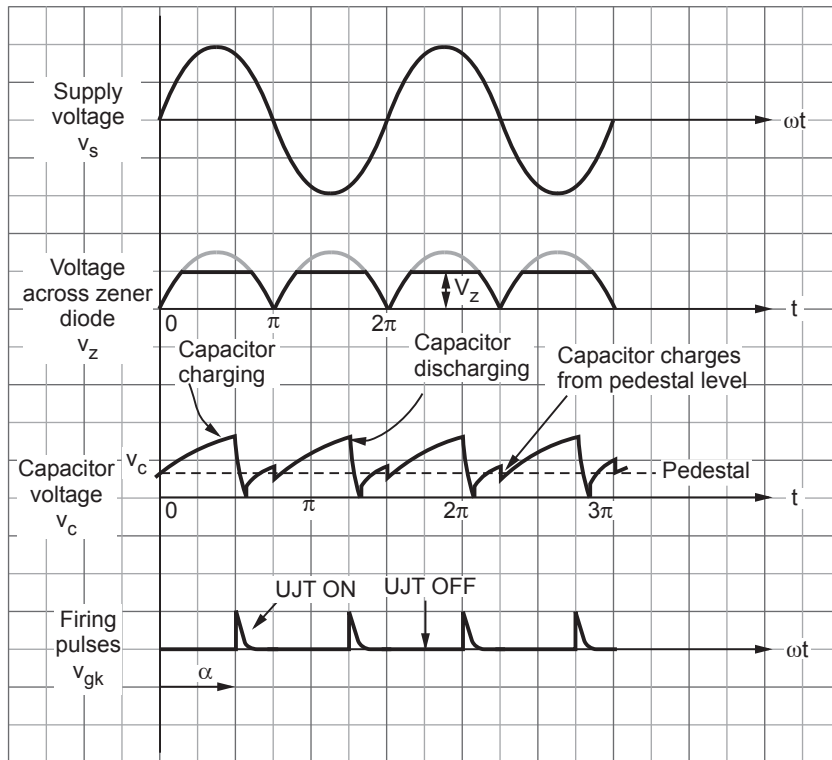
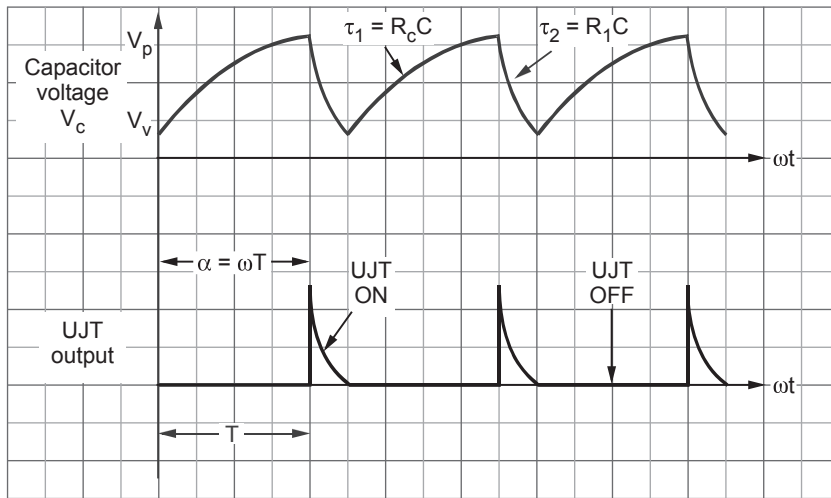

Fig. 1.10.10 Waveforms of UJT triggering circuit
Fig. 1.10.11 Waveforms of free running UJT relaxation oscillator
- The supply voltage is rectified and given to the zener regulator. The voltage of zener diode is V_z . The zener diode clamps the rectified voltage to V_z as shown in the waveforms of Fig. 1.10.10. Hence voltage V_z is applied to the UJT circuit.
- The pedestal control indicates initial voltage level in the capacitor. It can be adjusted through resistance R . The ramp control indicates charging of capacitor from pedestal level. The waveforms of Fig. 1.10.10 shows these levels.
- i) The capacitor charges through resistance R_c . When the capacitor voltage becomes equal to V_p , the peak voltage of the UJT, it turns-on. The capacitor discharges through emitter (E), base (B_1) and primary of pulse transformer. The UJT is turned-on when the capacitor discharges. Since current flows through the primary of pulse transformer, a pulse is generated. This pulse as shown in Fig. 1.10.10 is the gate triggering pulse.
Fig. 1.10.11 shows the waveforms of free running UJT relaxation oscillator. The capacitor voltage waveform and UJT output are shown in the above figure. From Fig. 1.10.10, it is clear that triggering angle will be,
Note that this expression does not require R_{B1} and R_{B2} . Normally pulse transformer is connected at the base B_1 of UJT. Pulses are passed through pulse transformer. This provides isolation between SCR circuit and UJT triggering circuit. The resistance of pulse transformer primary can be denoted by R_1 . This resistance controls width of the triggering pulse. From Fig. 1.10.11, this width is given as,